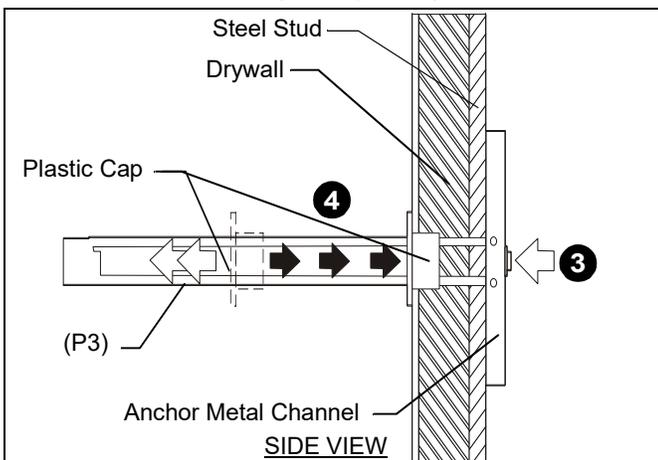

Figure 16
3. Holding plastic straps on anchor (P3), pull anchor away from wall until channel rests flush behind wall making sure anchor channel is positioned vertically on stud. (See Figure 16)
4. Slide plastic cap on anchor (P3) towards wall until flange of cap is flush with wall. (See Figure 16)